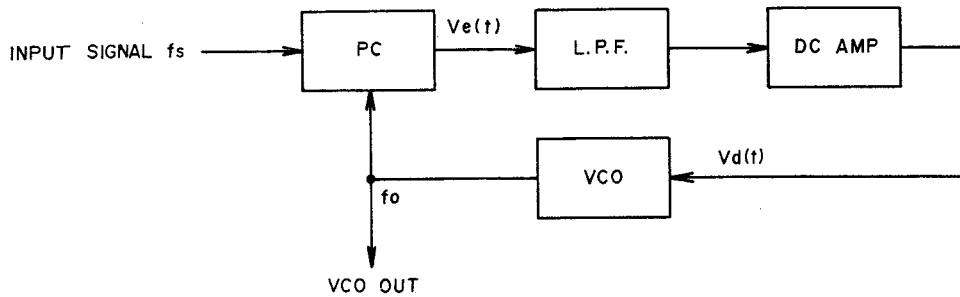

Fig. 13 PLL Circuit
PLL circuit is a kind of feedback circuit and is comprised of a Phase Comparator (PC), a Low Pass Filter (LPF), a Direct Current Amplifier (DC Amp) and a Voltage Control Oscillator (VCO) as shown in Fig. 13. The PC compares input signal  $F_s$  and VCO oscillator output and generates the difference in signal voltage  $V_e(t)$  proportionately to this phase deviation. This  $V_e(t)$  passes LPF and the DC Amp and becomes control voltage. This control voltage supplied to VCO and VCO oscillation frequency is DC controlled. When there is no input signal  $F_s$ , because there is also no  $V_e(t)$ , control voltage  $V_d(t)$  becomes zero, and VCO maintains a \*Free-running oscillation frequency. When a signal enters, VCO oscillation frequency  $F_o$  is controlled to narrow the difference between  $F_s$  by means of feedback as described above, and the PLL circuit assumes a synchronous condition. This is referred to as input signal lock. (When the difference between  $F_o$  and  $F_s$  is too large, the differential signal frequency becomes high and is reduced at the LPF. However, because the VCO control voltage does not change, PLL will not